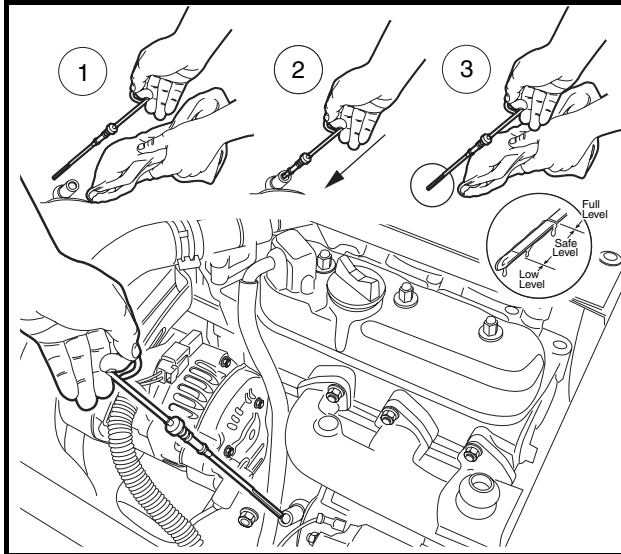
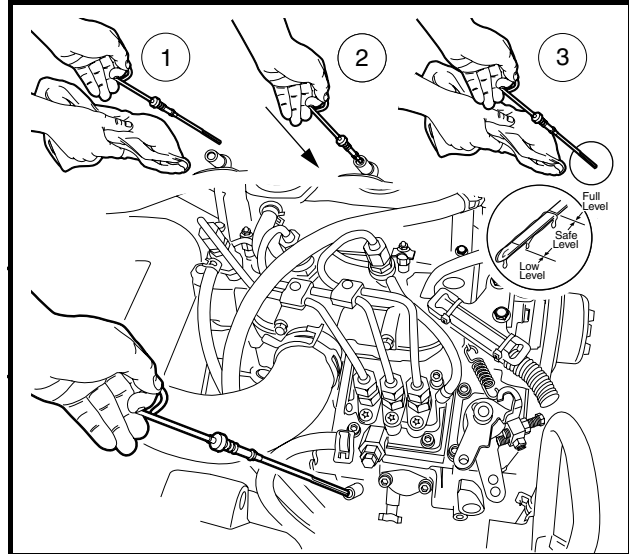

Figure 20 Engine Oil Level Check – Diesel Vehicles With Driver-side Dipstick
Figure 21 Engine Oil Level Check – Diesel Vehicles With Passenger-side Dipstick
1. Remove the oil level dipstick from the oil filler tube and wipe oil from the dipstick. **See Figure 18, Figure 19, Figure 20, and Figure 21, on page 36. See following CAUTION.**